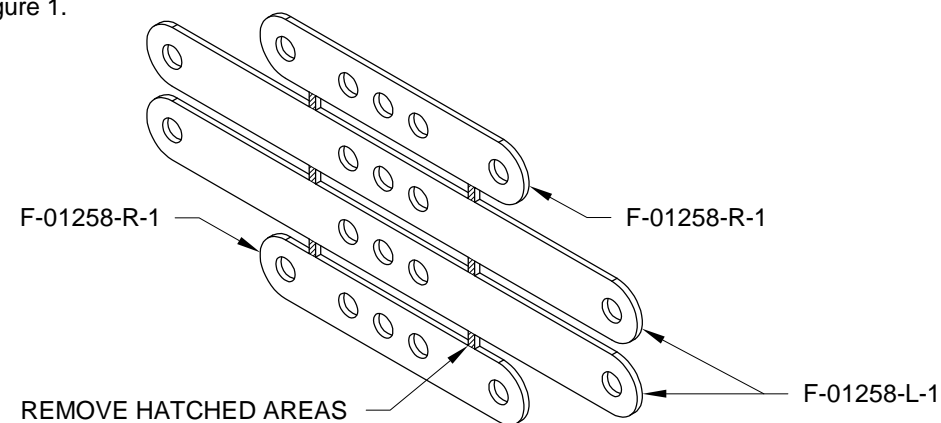

FIGURE 1: SEPARATING THE F-01258-1 RUDDER CABLE LINKS
Step 1: Separate the F-01258-1 into individual parts by removing the hatched areas shown in Figure 1.